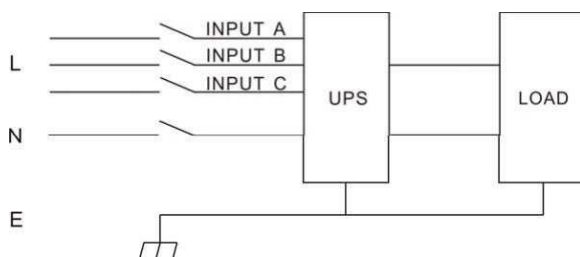

Fig.1 Correct connections
- * For the safety sake of user and equipment, please betake correct power configuration (Fig.1, 2)